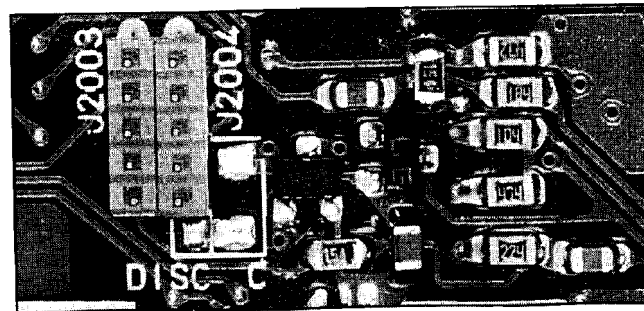

Fig. 2 RX Audio Component Location
- Locate the unused pad beneath connector J2004, labeled **C** (Fig. 2). Install a 0- Ω chip resistor* across at this location, and a wire to the pad just to the left labeled **DISC**. This makes the connection for de-emphasized discriminator audio output for decoding.